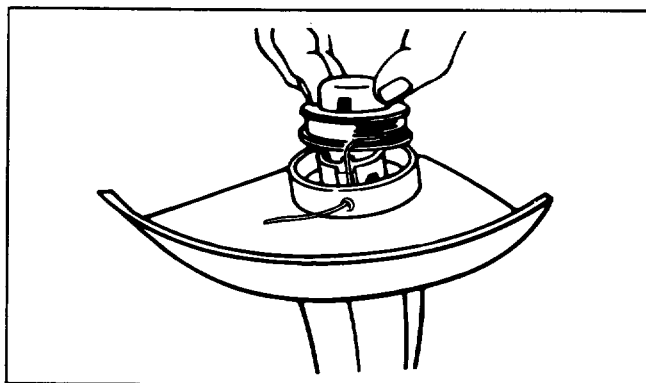

Figure 21
- D. The spool and the core are keyed. Be sure they are properly aligned with eyelet when putting spool back on. Thread end of line through eyelet, place spool on keyed core, and push in place until you hear it click. Pull line free from groove in spool. Unwind no more than 3 inches from spool (Fig. 21).